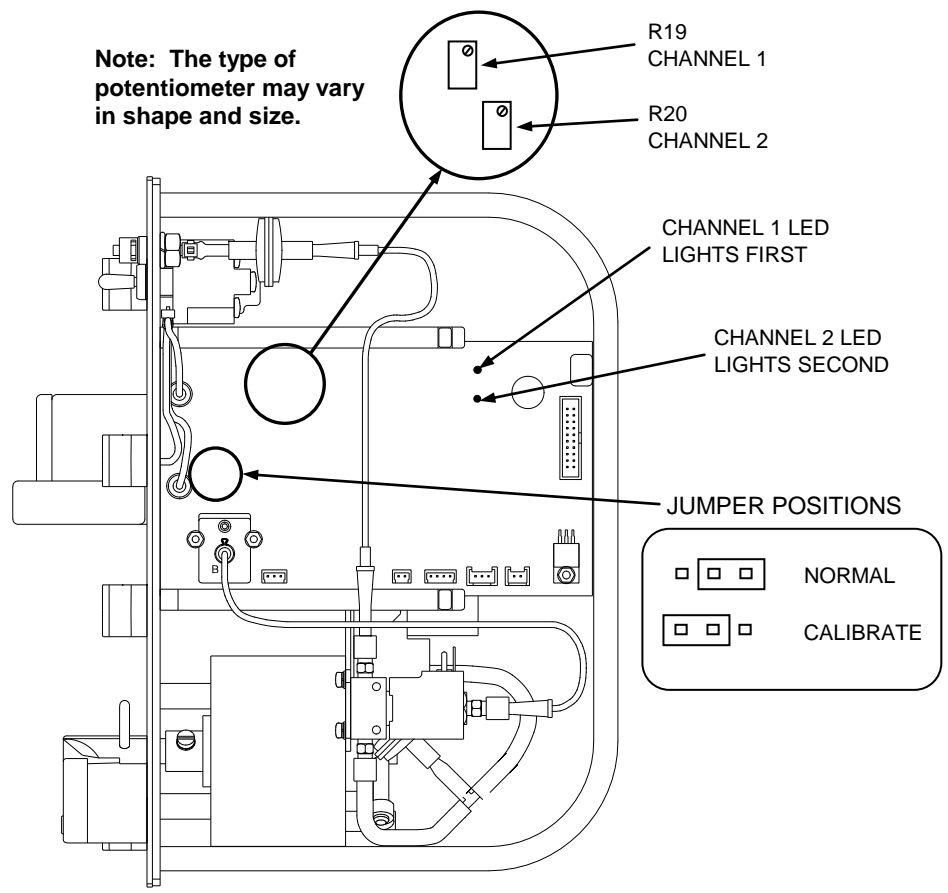

Figure 8 - Level Detector Calibration Adjustments
3. Move the jumper on the LP241/LP450 board to the Calibrate position (see Figure 8).
4. Observe the Channel 1 LED (see Figure 8). If the LED is On, turn channel 1 potentiometer (see Figure 8) clockwise until the LED turns off.
6. Repeat Steps 5 and 6 for the Channel 2 LED, adjusting channel 2 potentiometer (see Figure 8). The response of channel 2 is slower than channel 1. When adjusting to the switch point, move the potentiometer in small steps and wait to see if the LED switches on.
7. Move the jumper back to the Normal position (see Figure 8).